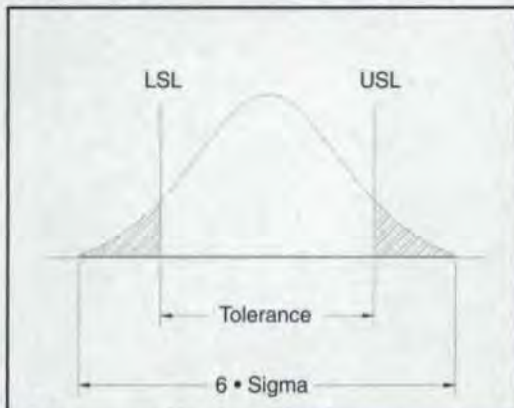

Figure 1—Process variation for the "flat gear" family was out of control.
**Quality.** The flat gear process variation was out of control, as shown on the graph in Figure 1. Although we had extremely knowledgeable people who were able to produce quality parts despite using old technology, many setups would turn into development projects, which took its toll on our productivity and profitability.